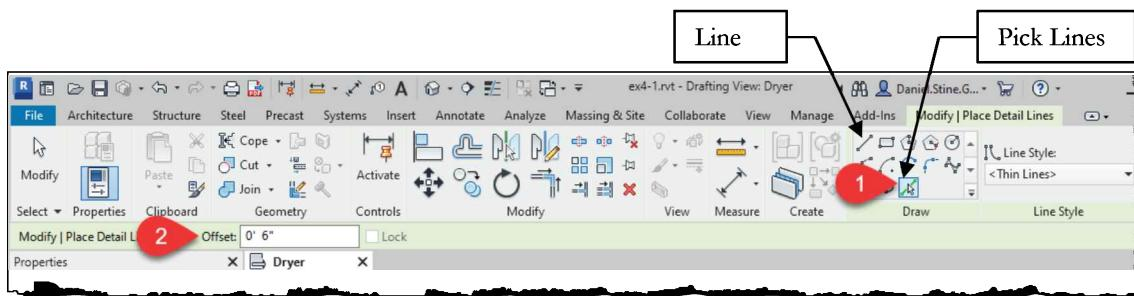

FIGURE 4-2.7 Ribbon and Options Bar: options for Detail Lines in Pick Lines mode
22. Select the **Pick Lines** icon on the *Ribbon* (Figure 4-2.7).
Note that the **Pick Lines** icon toggles you from *Draw* mode to *Pick Lines* mode. The **Pick Lines** mode allows you to use existing linework to quickly create new linework. You should notice the available options on the *Options Bar* have changed after selecting **Pick Lines**; you can switch back by selecting the *Draw* icons on the *Ribbon* (Figure 4-2.7).
23. Enter **0' 6"** for the *Offset* distance (Figure 4-2.7).